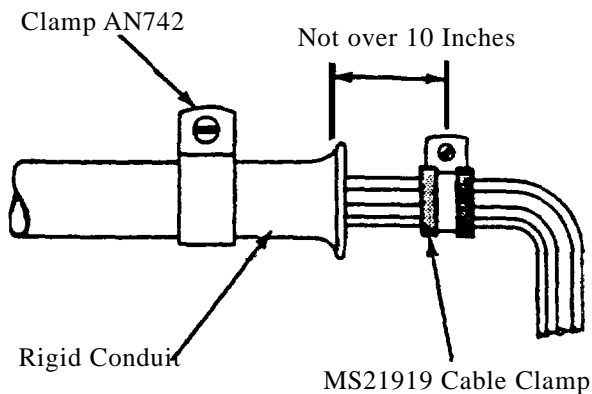

Figure 12. Support for Wire at Conduit End
20. **SUPPORTING WIRES AT END OF RIGID CONDUIT.** MS21919 cable clamp should be available to support wires at each end of conduit. Place the cable clamp in a direct line with the conduit end to prevent chafing of wires at edge of conduit. The cable clamp should be as close to end of conduit as practicable, but never more than 10 inches away (Figure 12).